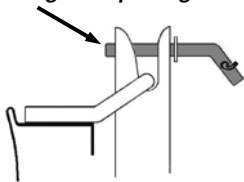

Figure 28
1. Step behind the Plow and remove the keyhole pin (**Figure 28**).
Reverse procedure from “Lowering the Blade for Pushing Snow” and re-insert keyhole pins (**Figure 28**).